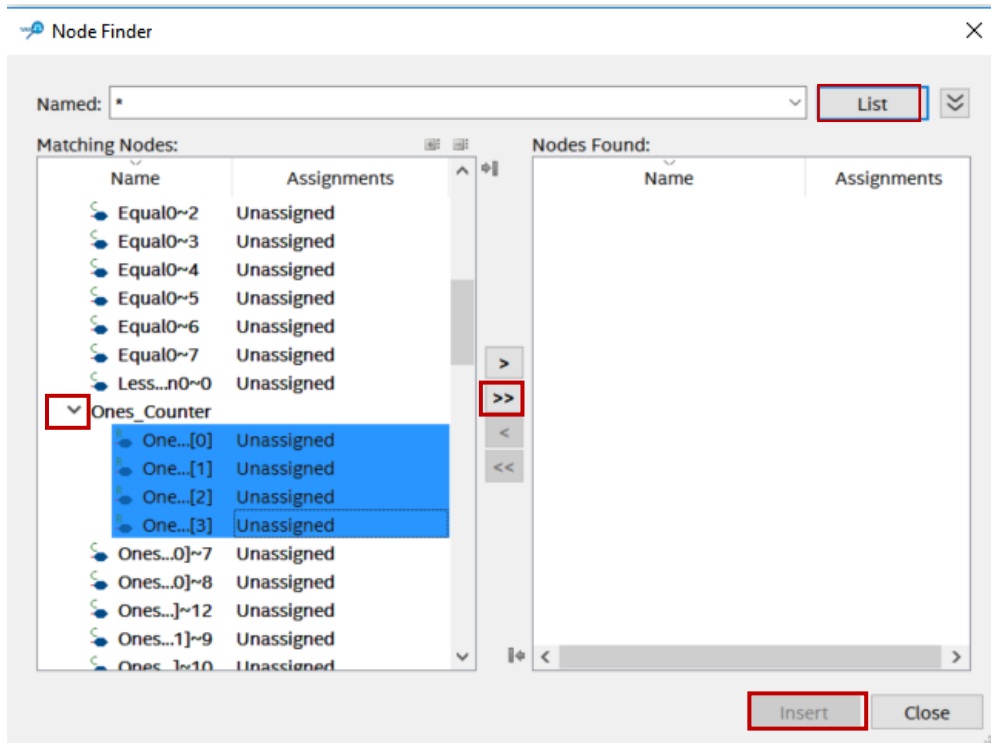

FIGURE 42 NODE FINDER IN SIGNAL TAP
- d. Add **Ones_Counter** and **Tens_Counter** signals into the Nodes Found column by clicking on the single right arrow so it faces down and expanding the selection. The selected signals should not contain the “~” character, those are other intermediate signals. If you cannot view all the signals, click on the downwards arrow as highlighted in the Figure 42. Also, add **SW [0]** from the SW instance.